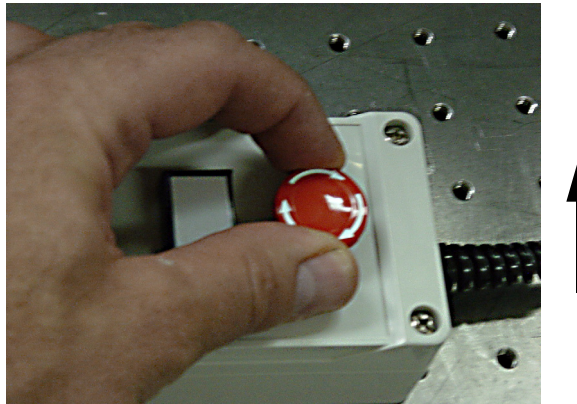

Figure 3-2: Releasing the Red Emergency Off Button on the EMO box
- 4 Verify that the red Emergency Off button on the EMO Box is in the On (popped-up) position. If it is not, release it by rotating it clockwise until it pops up (see Figure 3-2).